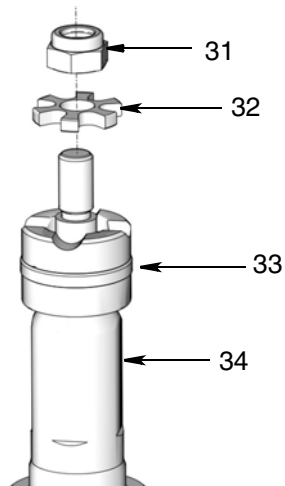
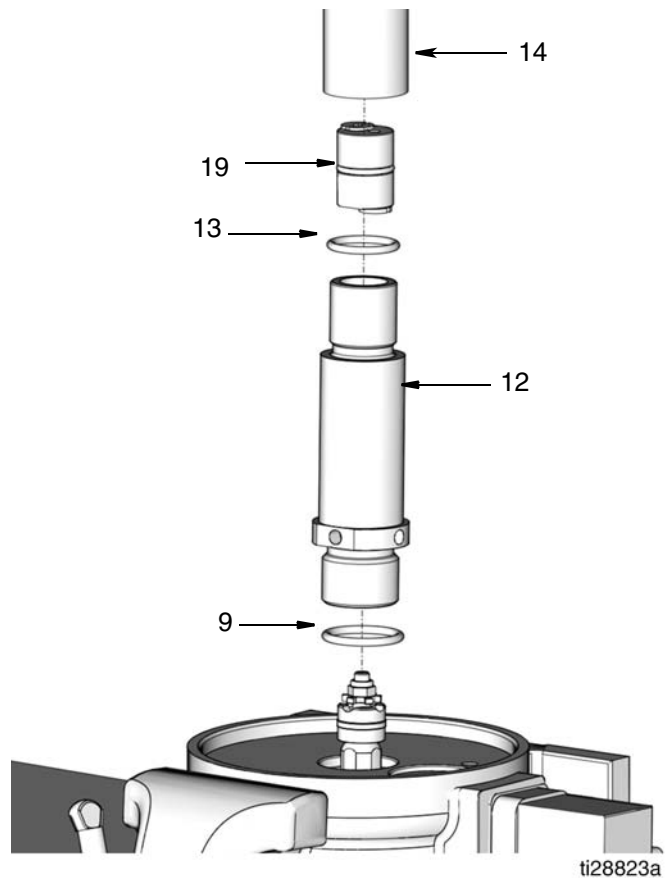

FIG. 36
FIG. 37
14. Install star washer (32) and lock nut (31) on piston rod (34) as shown in FIG. 36.
15. Use a wrench to tighten lock nut (31).
16. Outlet Tube O-ring (13) and Pump Cylinder O-ring (9)
Apply a thin layer of grease to the outlet tube o-ring (13) and the pump cylinder o-ring (9) and install o-rings on the outlet tube (14) and pump cylinder (12) (FIG. 37).